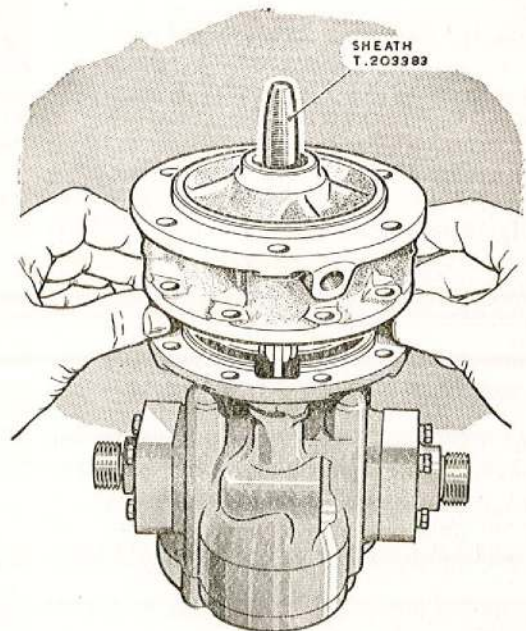

Fig. 10. Fitting and removing the camplate housing
29. Place the sheath T.203383 (*fig. 10*) over the rotor quill shaft and withdraw the rotor sealing collar complete with sealing ring. Remove the sheath and then lift off the carbon face seal, sealing ring and spring.